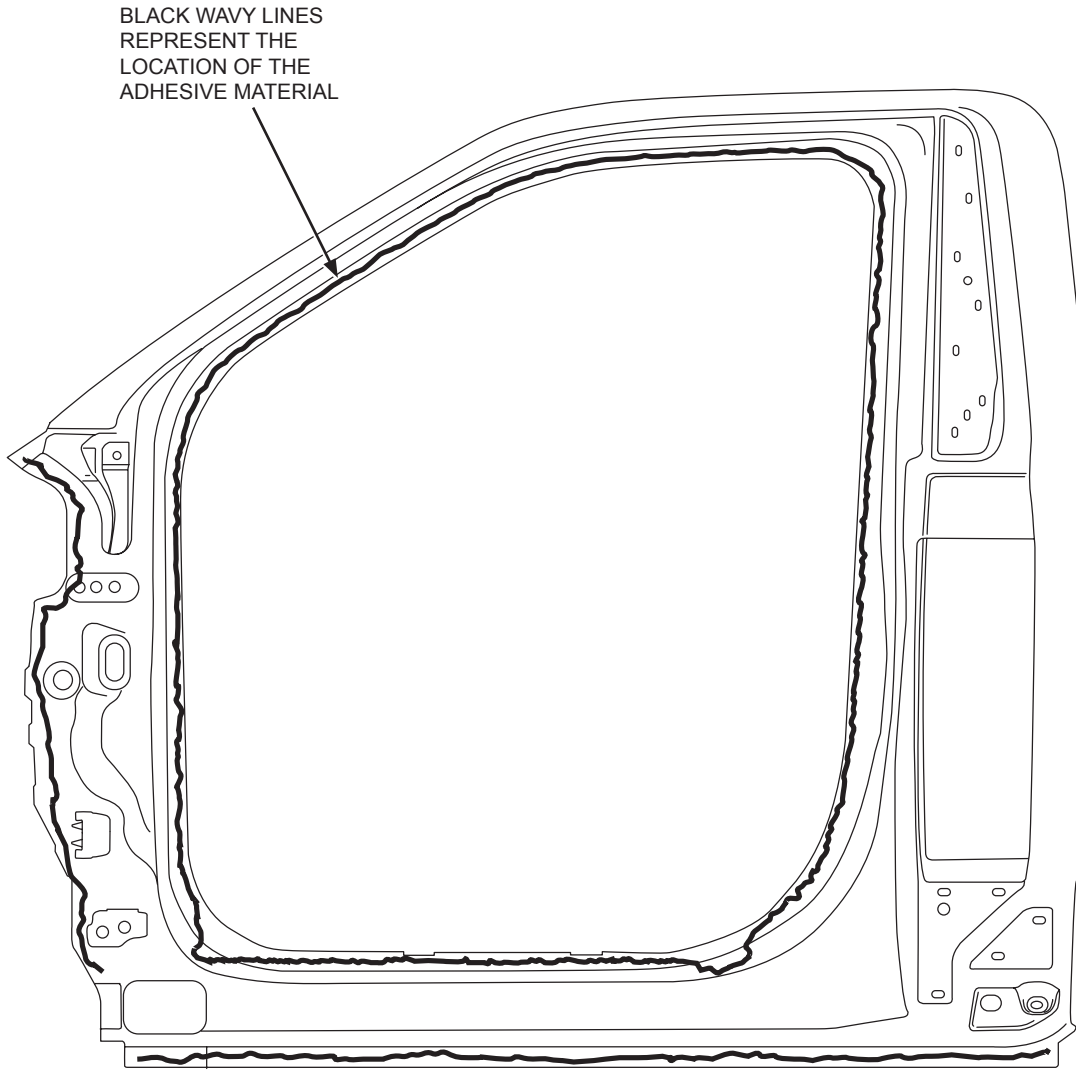

FIGURE 4
- (Refer to Figure 4) for location for adhesive material.
NOTE: The location of SPR and adhesive shown below are based on the original production drawings and should only be used as a guideline. (Refer to Figure 4).